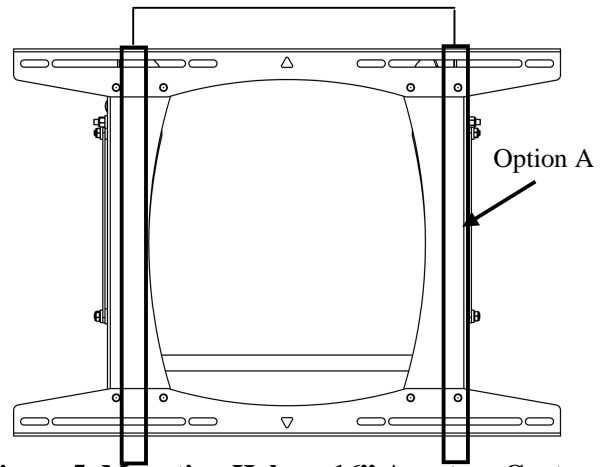

Figure 5. Mounting Holes – 16" Apart on Center (Option A)
1. Holding the PLP against the wall, select the pair of mounting holes that best suits your situation (see Figures 5, 6, and 7).
- **Option A.** Install four 5/16" x 2-1/2" lag bolts (20) and four 5/16" washers (30) (two top and two bottom) into the mounting holes, centering the PLP on dual wood studs 16" apart on center as shown in Figure 5.